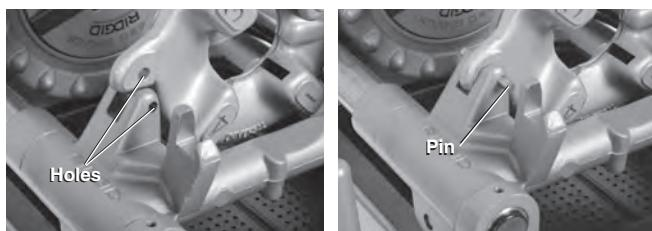

Figure 24 – Retaining LH Die Head in Place
1. Place a  $\frac{5}{16}$ " pin, 2" long through the holes in the carriage rest and left hand die head to retain in place (see Figure 24).